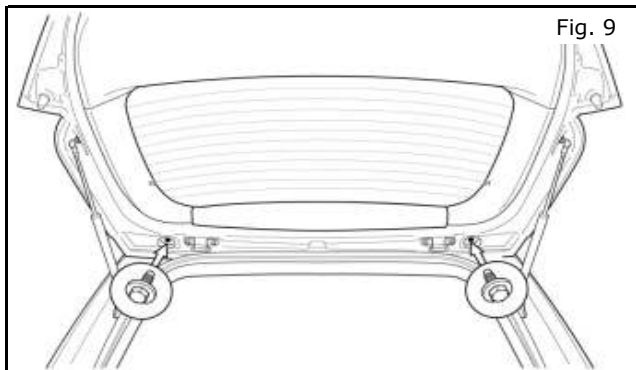

Fig. 9
- h) Install 2 M6 bolts into the u-nut brackets with a 10mm socket tightened to 3.8 N-m (34 inch-lbs.). Do not over torque the bolts. (Fig. 9)